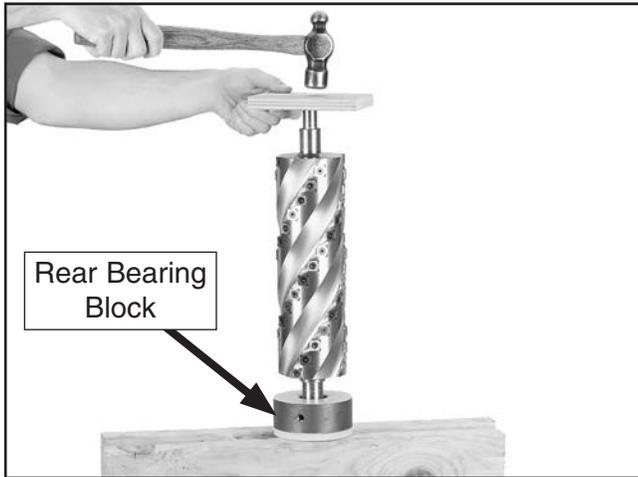

Figure 15. Seating rear bearing block.
- Stand cutterhead upright between two 8" 2x4 blocks (see **Figure 15**), with the rear bearing block side down. Use a hammer and a wood block to seat cutterhead into rear bearing block. Tap wood block on cutterhead until it meets resistance.